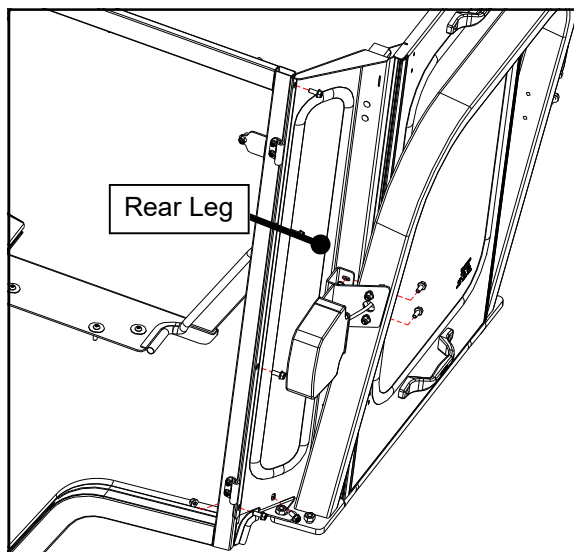

Fig. 8.1 (Rear Leg Installation)
8.1 With assistance, install the left side rear leg oriented as shown. See Fig. 8.1. Fasten to the side frame and ROPS brackets. Leave finger tight. Repeat for right rear leg.